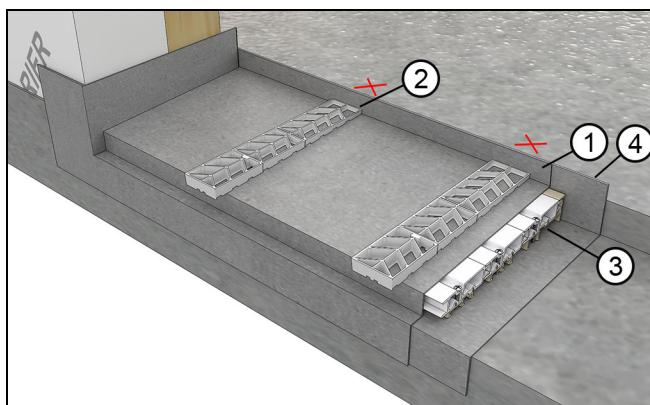

Figure 13 Set counter-shims
- 3. Place the counter-shims in the panning every 10"(254) using the marks you made earlier as a guide. The counter-shims should be placed beside the fastener locations (opposite side of the drain routes). See Figure 13.